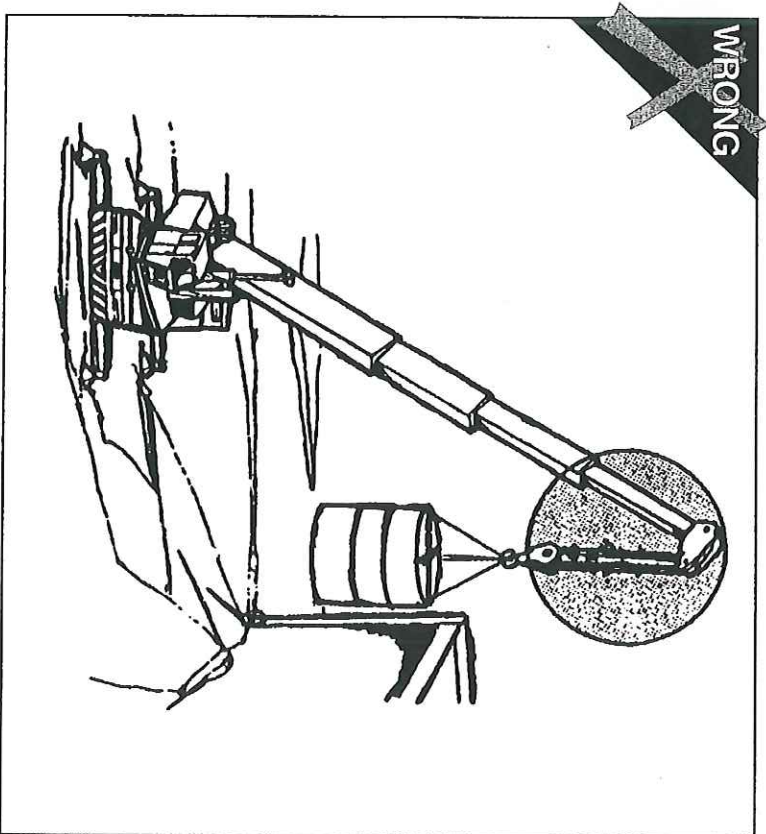

FIG. 68
- In standing ropes, more than two broken wires in one lay in sections beyond end connections or more than one broken wire at an end connection. (FIGS. 68 and 69)